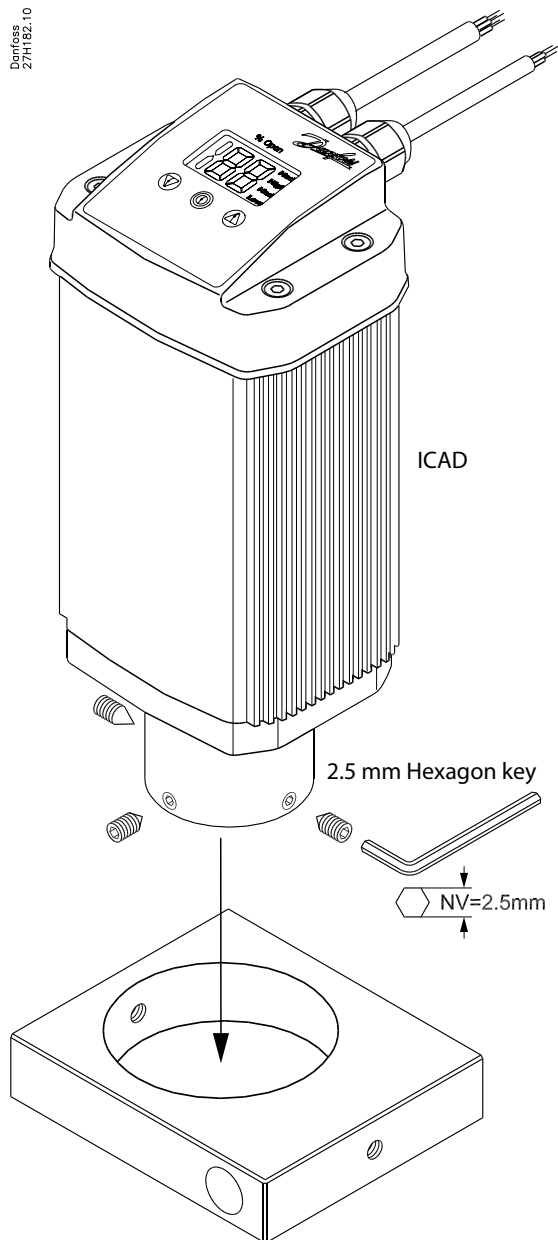

Fig. 2
If an alarm has been detected the display at ICAD (fig. 2) will alternate between showing actual alarm and present Opening Degree.
5. When the display on ICAD (fig. 2) is alternating between showing: **CA** and **A1** the factory resetting is complete.
- Check that the three socket set screws on ICAD are fully unscrewed counter clockwise and removed with a 2.5 mm Hexagon key. See Fig.2
- Insert the ICAD into the hole the heat cartridge holder. (fig. 2)